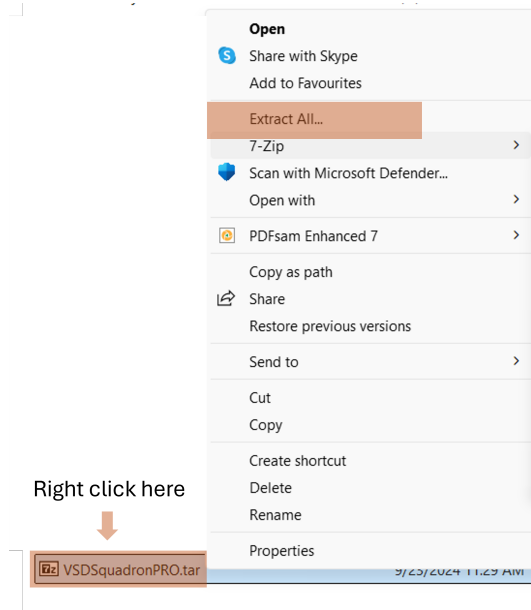

Figure 5: Freedom Studio Extraction step from VSDSquadronPRO.tar.gz
- Right click on VSDSquadronPRO.tar and click on "Extract All", as shown in Figure 5.